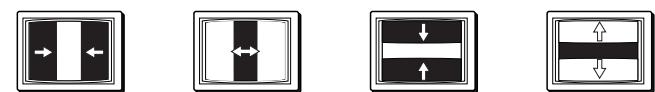

Figure 3-9 — Curtain wipe effects
- A curtain wipe causes the preview image to appear to unroll over the program image in two directions simultaneously. The preview image can wipe across the program image with the following transitions (figure 3-9):